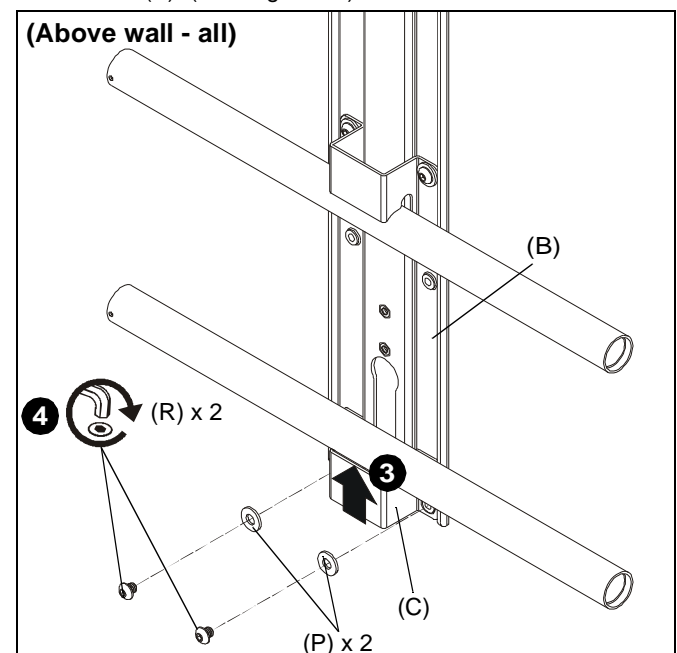

Figure 22
3. Slide second support bracket (C) underneath lower rail on wall mount, lining up holes on support bracket (C) to holes on main bracket (B). (See Figure 22)
4. Use two 1/4-20 x 1/4" button head cap screws (R) and two large washers (P) to secure support bracket (C) to main bracket (B). (See Figure 22)